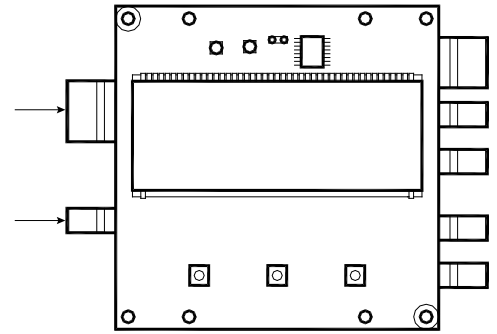

Figure 32: Cables to plugs
3. The cable entry should be done as shown in Figure 32.